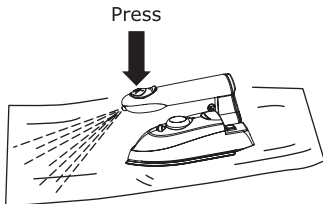

Fig.11
1. Spray when dry ironing, can move wrinkles easily. It always use on lower temperature set while can't use steam function. Ofcause, spray can use on all temperature sets. First, coflrm there has water in tank. (Fig.11)